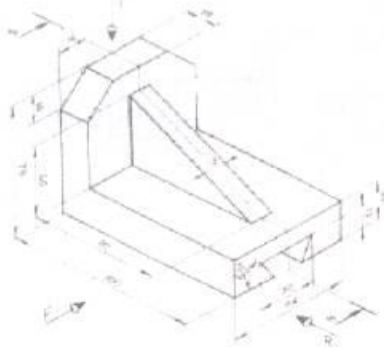

Fig. Q 1(b)
- b. The pictorial view of a machine part is shown in Fig. Q 1(b). Draw the following views –